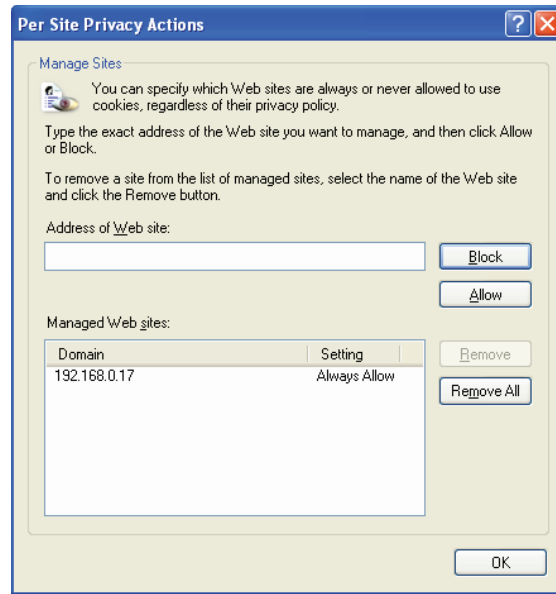

Figure 185. Per Site Internet Options
TIP: If a high security level is required, click on the **Edit** button (3) and allow the VN-Matrix web interface to use cookies (see figure 185 on the next page).